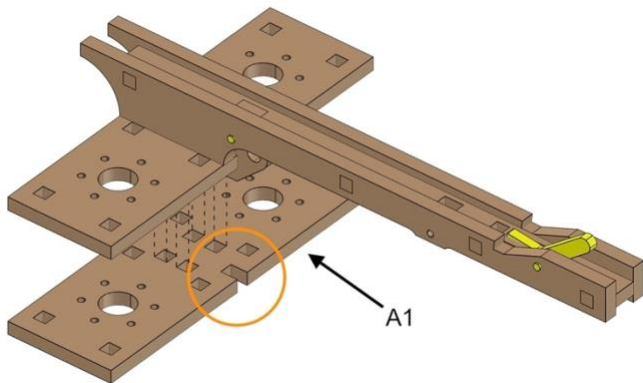

Fig. 15
- Align parts exactly as shown in *Fig. 15*.